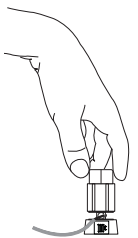

Figure 3
2. Insert the Loudspeaker hookup cable into the Output Terminal Post opening or the cable spade lug around the center post of the Output Terminal. Refer to figure 3.